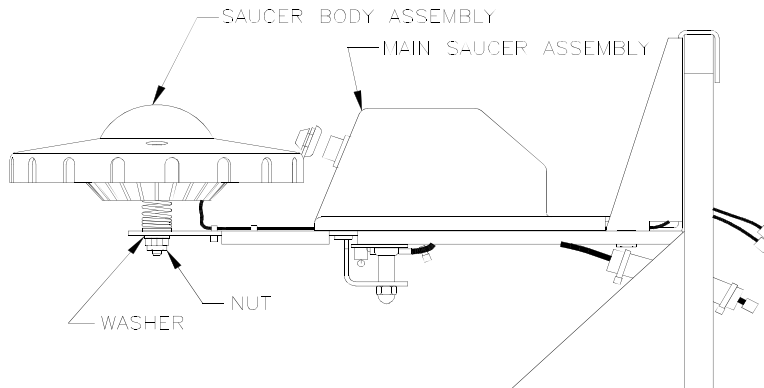

FIGURE 9
1. To remove the entire Saucer Body Assembly (p/n AFM-A-20713) from the Main Saucer Assembly (p/n AFM-SUB-A20608), remove the nut (p/n FNT-083-ESNA000) and washer (p/n FWF-172-047059C) from the underside of the Main Saucer Assembly. (See Fig.9 & 10)